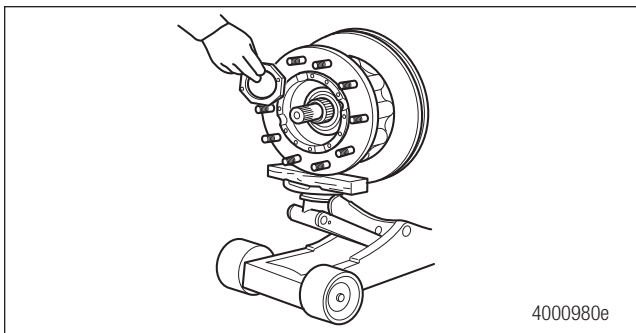

Figure 6.5
- Using a suitable lifting device to support the wheel end, remove the wheel bearing adjusting nut. Use the correct size wrench socket to prevent damage to the adjusting nut. Refer to Wheel End Lock Nut Socket on page 72 for socket information. Figure 6.5.